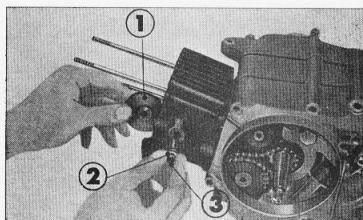

Figure 9. ① Cam chain guide roller ② 8 mm sealing washer
7. Loosen the cam chain guide roller pin and remove the cam chain guide roller from the cylinder. (Fig. 9)